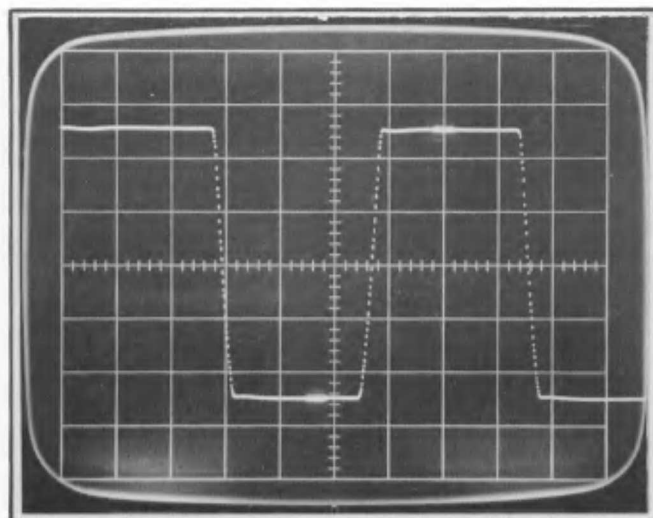

Fig. 7-11. Typical display for checking Vertical accuracy, 10 μ s square wave at 2 μ s/div.
b. Connect the cable between the Type 284 and the sampling head input. Set the sampling sweep unit for a sweep rate of 0.5 μ s/div (500 ns; Decade at 7, Multiplier at 5.) Set the Type 284 to deliver 10 μ s square waves at 1.0 volt. Obtain a display similar to Fig. 7-11, normally triggered (not double triggered).